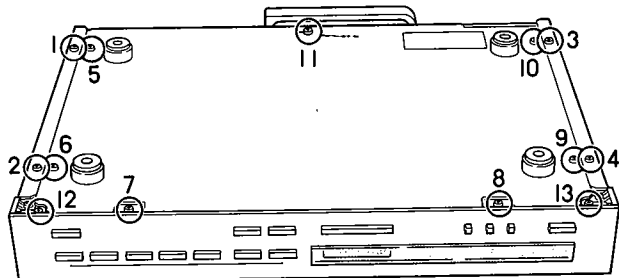
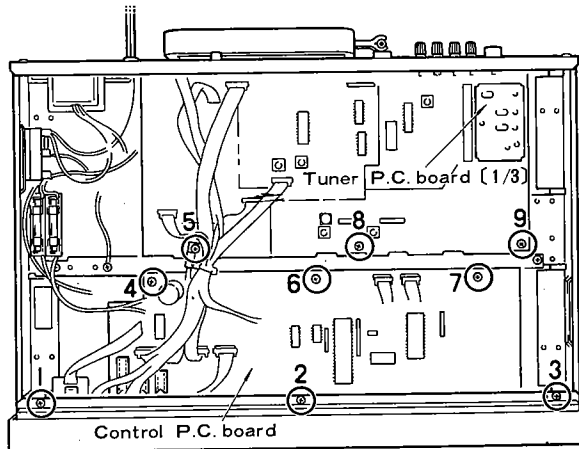
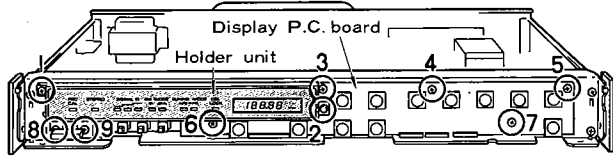
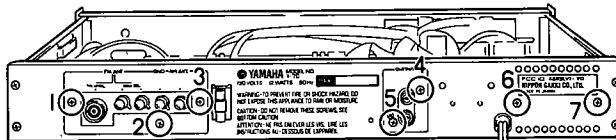

Fig. 1
Fig. 2
Fig. 3
Fig. 5
Detach the AM loop antenna from the antenna holder. Remove screws ① to ④ in Fig. 1 and then slide the top cover to the rear panel and remove it.
Remove screws ⑤ to ⑪ in Fig. 1 and then remove the bottom cover.
Remove screws ⑦, ⑧, ⑫ and ⑬ in Fig. 1 and screws ① to ③ in Fig. 2 and then remove the front panel.
- b. Remove the screw ① and plastic rivet ② in Fig. 3 and then remove the holder unit.
- c. Remove screws ④ to ⑦ in Fig. 2 and screws ③ to ⑦ in Fig. 3 and then remove the control p.c. board [1/2] together with the display p.c. board.
- b. Remove screws ⑤, ⑧ and ⑨ in Fig. 2 and screws ① to ⑤ in Fig. 5 and then remove the tuner p.c. board [1/3].
- b. Remove screws ⑥ and ⑦ in Fig. 5 and then remove the power transformer.
Remove screws ⑧ and ⑨ in Fig. 3 and then remove the power switch.